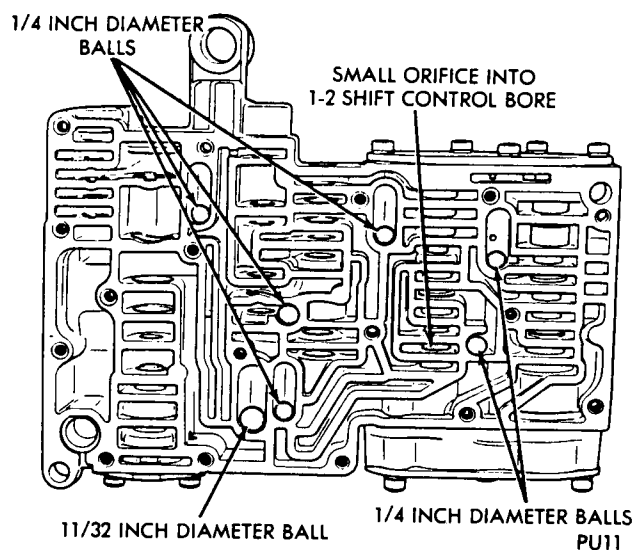

Fig. 5—Steel Ball Locations
(11) Remove the 7 balls from valve body as shown in Figure 5.
(1) Install the 7 balls in valve body as shown in Figure 5.
(2) Install rear clutch ball check and low-reverse